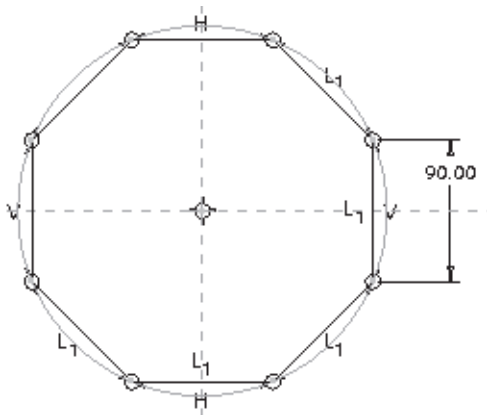

Figure 8-100 Sketch of the octagonal feature
- Create the base feature, refer to Figures 8-100 and 8-101.
4. Draw the sketch of the octagon and apply the constraints and dimensions, as shown in Figure 8-100. The construction circle is used to draw the octagon because it becomes easy and less time-consuming.